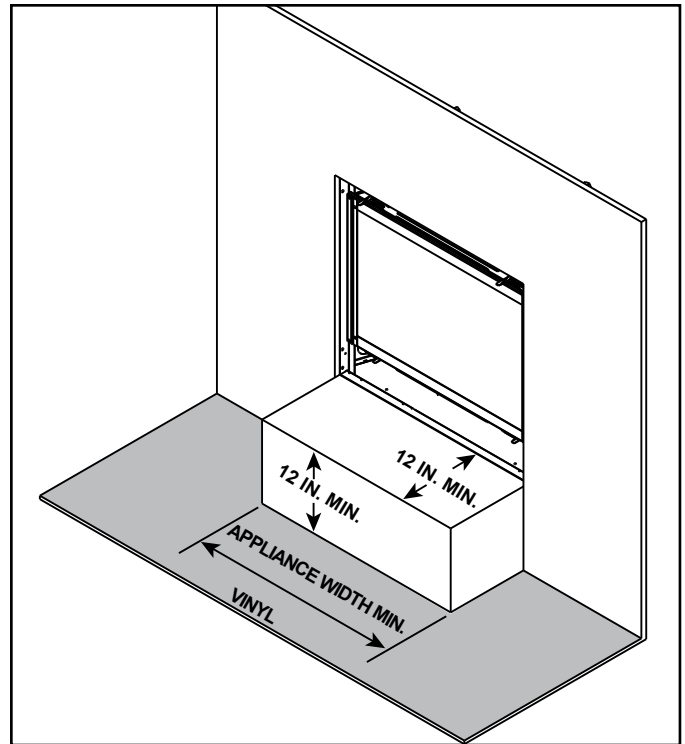

Figure 3.19 Vinyl Flooring Recommendations
- Combustible flooring may be located in front of the appliance. See Figure 3.19 for vinyl flooring recommendations.